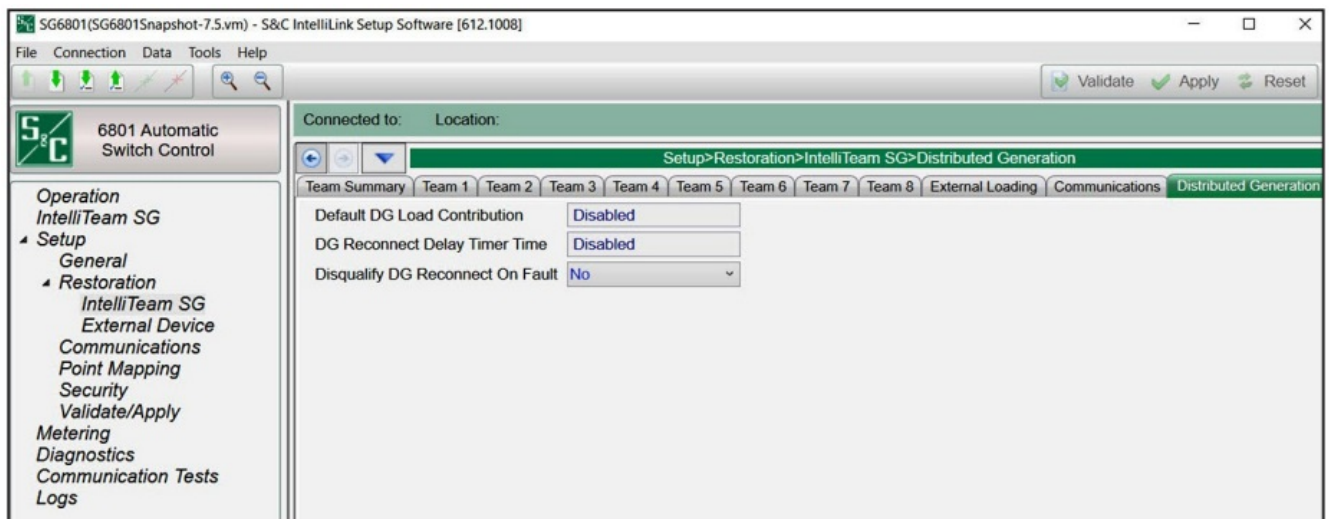

Figure 12. The Setup>Restoration>IntelliTeam SG>Distributed Generation screen.
- The Default DG Contribution setting is read-only on the IntelliLink software screen. To view the configured value, go to the Setup>Restoration>IntelliTeam SG>Distributed Generation screen. See Figure 12.